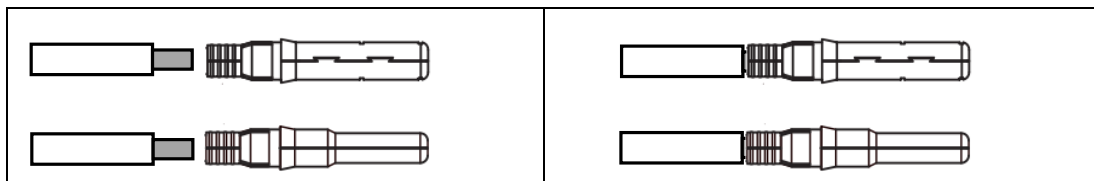

Fig. 16
1. Strip the insulating layer of the DC cable by about 8mm to expose the copper conductor. Insert the copper conductor into the metal tube core of the connector and press it down with crimping pliers (Fig. 16)